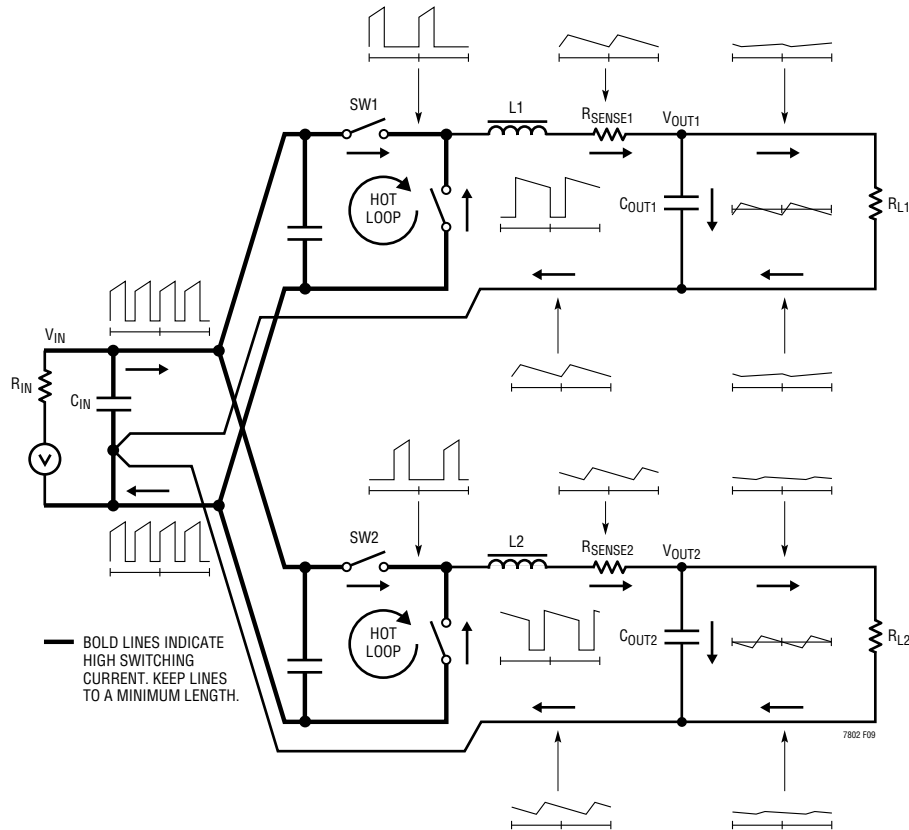

Figure 8. Branch Current Waveforms for Bucks
When laying out the printed circuit board, the following checklist should be used to ensure proper operation of the IC. Figure 8 illustrates the current waveforms present in the various branches of the synchronous regulators operating in the continuous mode. Check the following in your layout:
- Are the signal and power grounds kept separate? The combined IC ground pin and the ground return of  $C_{INTV_{CC}}$  must return to the combined  $C_{OUT}$  (-) terminals. The area of the “hot loop” formed by the top N-channel MOSFET, bottom N-channel MOSFET and the high frequency (ceramic) input capacitors, as shown in Figure 8, should be minimized with short leads, planar connections, and multiple paralleled vias where needed. The output capacitor (-) terminals should be connected as close as possible to the (-) terminals of the input capacitor.